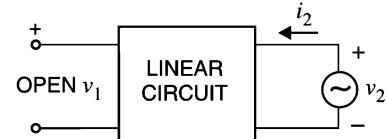

Fig. 24.3
- (ii) The other two  $h$  parameters (viz  $h_{12}$  and  $h_{22}$ ) can be found by making  $i_1 = 0$ . This can be done by the arrangement shown in Fig. 24.3. Here, we drive the output terminals with voltage  $v_2$ , keeping the input terminals open. With this set up,  $i_1 = 0$  and the equations become :